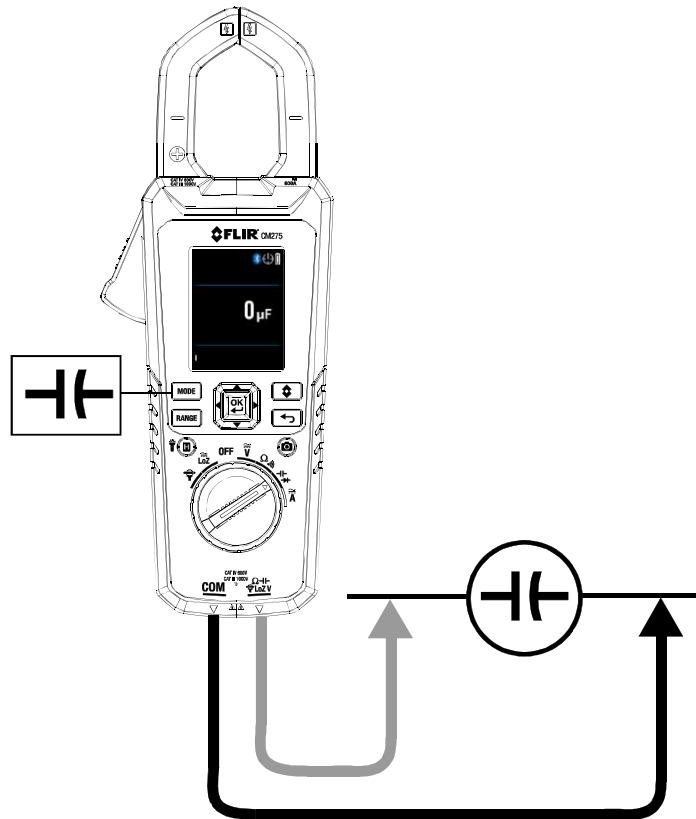

Fig. 9-8 Capacitance Measurements
3. Insert the black probe lead into the negative COM terminal and the red probe lead into the positive terminal. Refer to **Fig. 9-8** below.